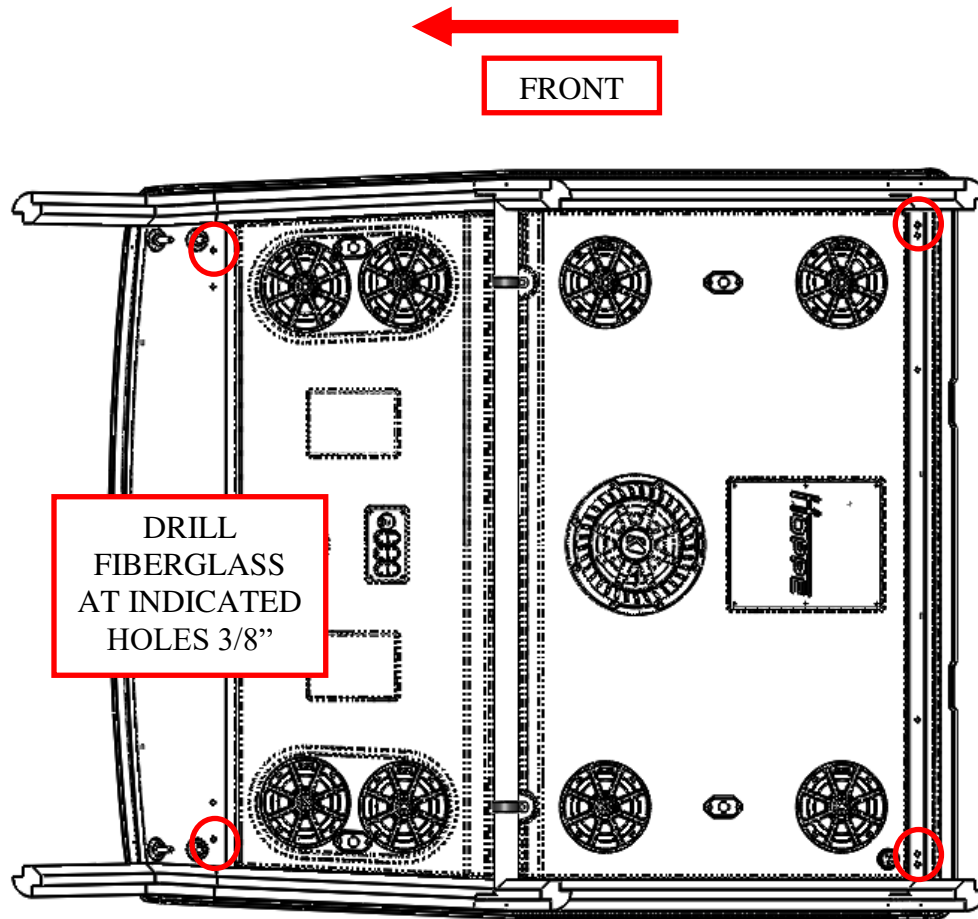

Figure 6: Install the top on the cage.
3. Using a few assistants, set the *Audio Shade* off-road top on the cage. The top is contoured such that the cage fits inside the grooves on the top. **Note: The top weighs up to 160 lbs. depending on your configuration. Since you will have to lift and reach, it is helpful to have 4 to 6 people for this step.** See Figure 6.
5. The top is mounted using the indicated holes in the factory cage. See Figure 6. Be sure the top is fully seated on the cage and in its final position. Drill a 3/8" hole through the fiberglass using the cage as a template at each location.